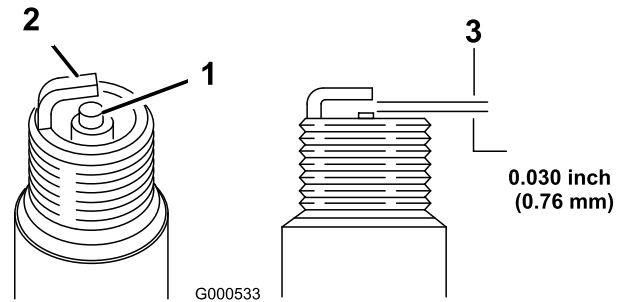

Figure 31
1. Look at the center of the spark plugs (Figure 31).
2. Check the gap between the center and side electrodes (Figure 31) and bend the side electrode, if the gap is not correct.